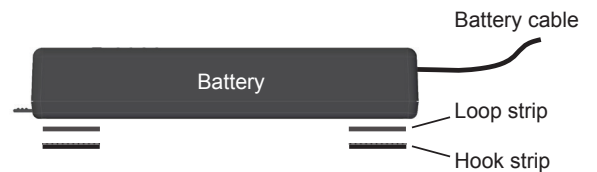

Figure 2.1
3. The battery and tray should be free from dirt, dust, grease and moisture to maximize hook and loop adhesion. Remove the adhesive backers and attach the hook and loop strips to the bottom of the battery as shown. **Figure 2.1.**